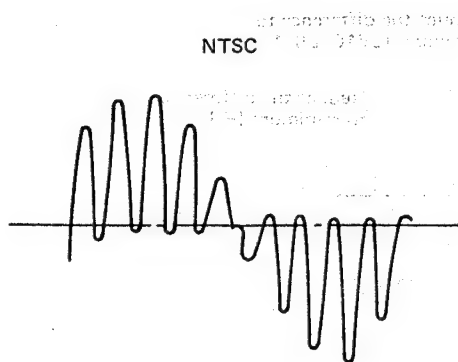

Fig. 24
5. Connect oscilloscope to TPB9 and adjust sub color control (R635) to obtain the waveform as in fig. 24.